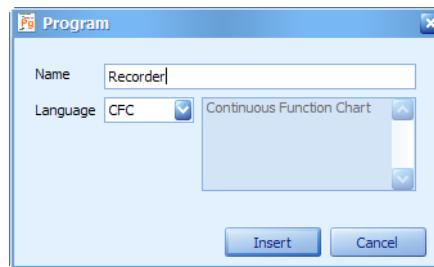

Figure 197 Insert Program
- Step 4. Right-click the **User Logic** folder in the project tree and then select **Add User Logic > Program** to display a window similar to *Figure 197*.